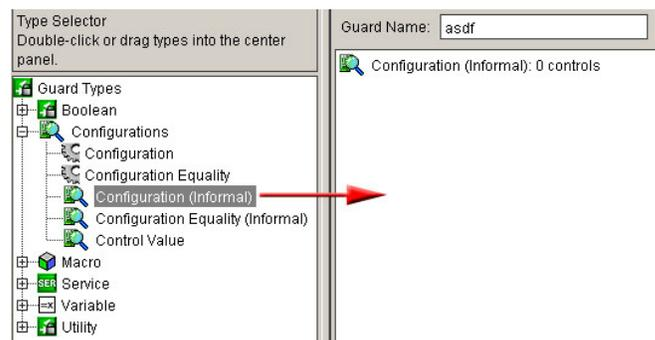

Figure 4-3: Using the Configuration Informal Component
1. To create a *Configuration Informal*, select the *Configuration (Informal)* component from the *Type Selector* panel and 'drag and drop' it into the middle column. Figure 4-3 displays an item in the Guard Contents Column.